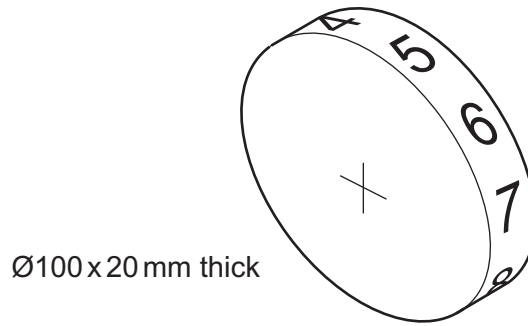

Fig. 11.4
- (d) Fig. 11.4 shows details of one of the discs made from MDF with the numbers 0–9 on the edge of the disc.